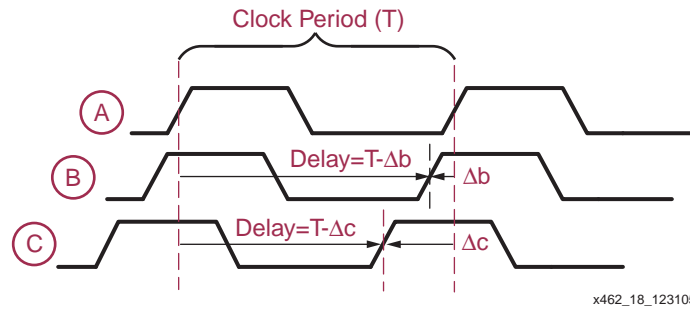

Figure 3-18: Delaying a Fixed Frequency Clock Appears to Predict the Future
Because it is impossible to insert a negative delay to counteract the clock skew, the DCM actually *delays* the output clocks enough so that they appear to be advanced in time. How is this accomplished? The clock cycle is repetitive and has a fixed period, T . As shown in Figure 3-18, the clock at Point (B) appears to be advanced in time by the delay Δb . In reality however, the clock is delayed by $(T - \Delta b)$. Similarly, the clock at Point (C) is delayed by $(T - \Delta c)$.